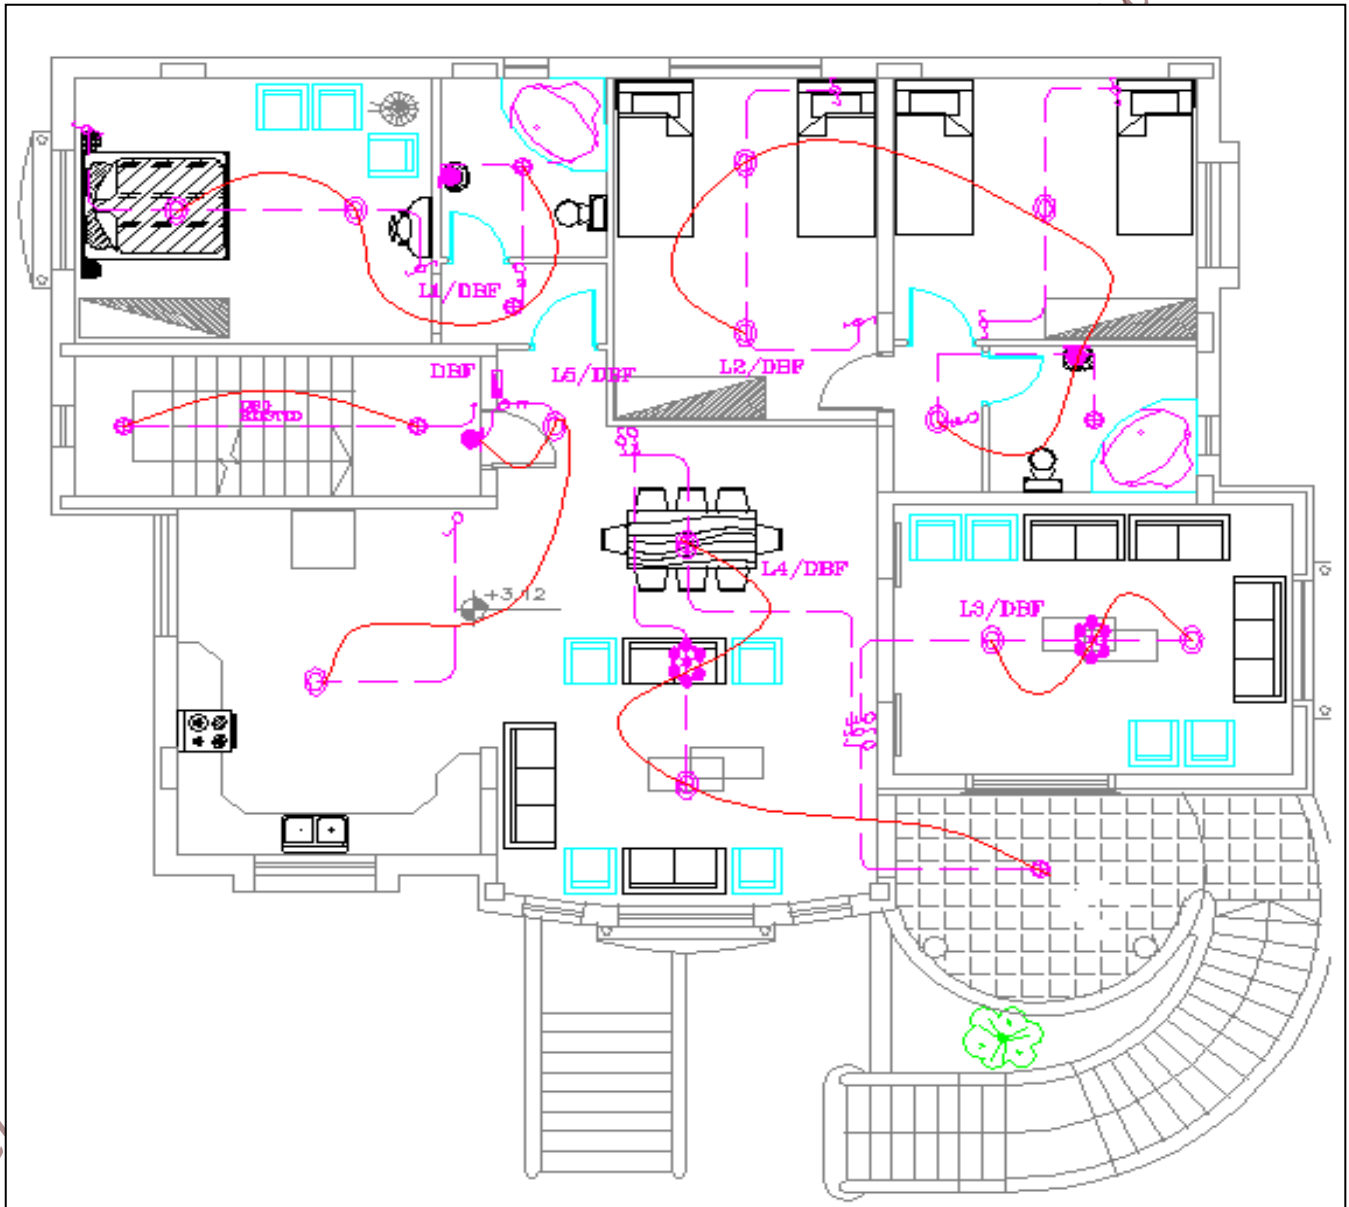

Figure 3.1 Lighting Plan of a house design
3. Distribute the light element for Kitchen, Living room, Guest room, bathrooms, Bedrooms and Corridors as in Figure 3.1, and then draw your distribution in the copy of the design.